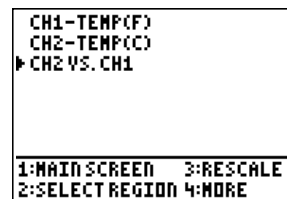

Figure 14
- Since we are interested in a relationship between Fahrenheit and Celsius, select **CH2 VS. CH1** (Figure 14).